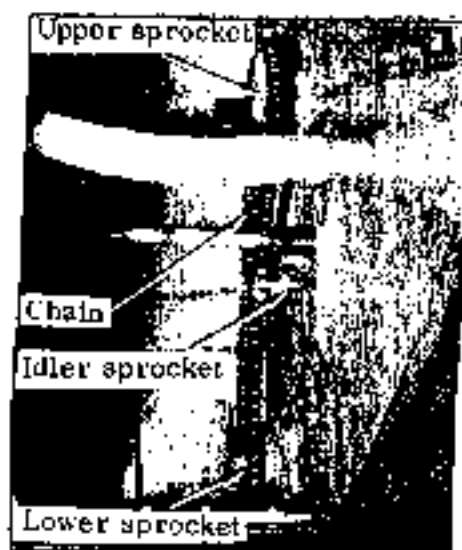

Fig. 4-46 Chain assembly
4.6 CHAIN ASSEMBLY (See Fig 4-46)